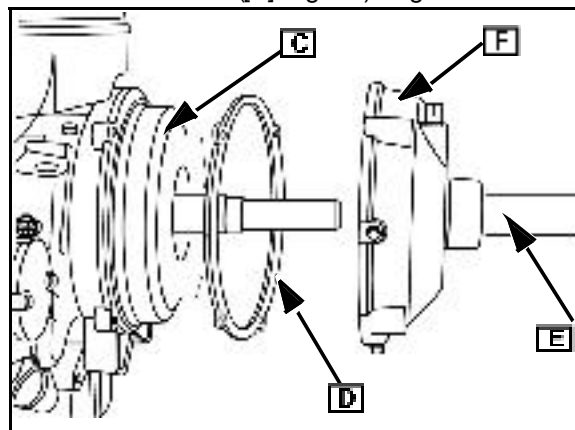

Fig. 29
4. Install large reduction gear (C) and cover gasket ([D] Fig. 29).
5. Insert seal protector (E) in seal of cover. Install cover ([F] Fig. 29) to gear case.